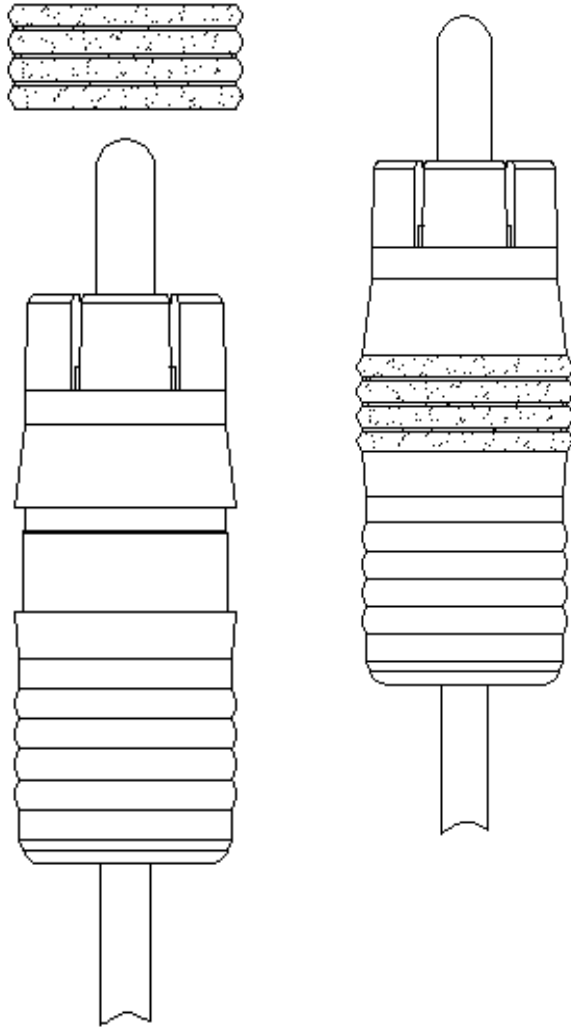

FIGURE 7
7) Install the color ring onto the connector as shown in figure 7.